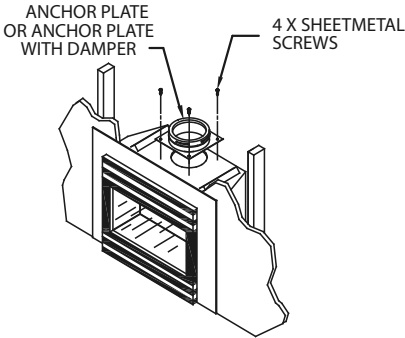

Figure 2
2. Mount Anchor Plate: Chimneys begin with an Anchor Plate or Anchor Plate with Damper. **Warning:** Anchor Plate with Damper is not allowed in chimneys serving stoker-fired, liquid or gas-burning appliances. Center the Anchor Plate over the flue opening. If a Damper is used, make sure nothing interferes with the damper plate movement. Attach the Anchor Plate to the fireplace top with (4) 5/8" sheet metal screws (**Fig. 2**). Check with appliance manufacturer about the use of high temperature sealants.